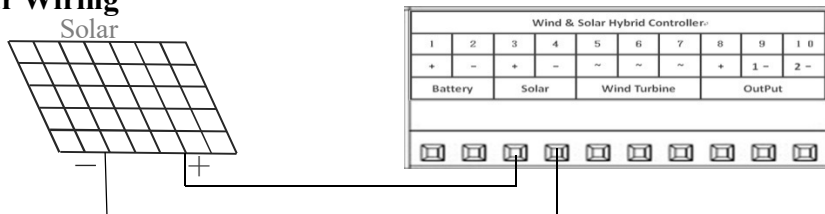

Figure2-3 Solar wiring
- ⚠ Connect solar positive(+) and negative(-) wires to controller as shown in figure2-3.